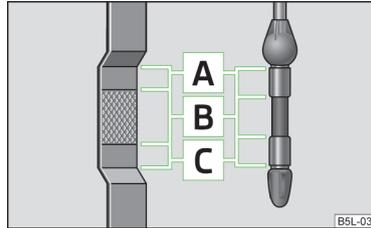

Fig. 128
-  Do not drive on if the oil level is above range **A** » Fig. 128 on page 142. Switch off the engine and seek assistance from a specialist garage.
The dipstick indicates the engine oil level » Fig. 128.
- The oil level must never be above the **A** range » Fig. 128 - there is a risk of damaging the exhaust system.